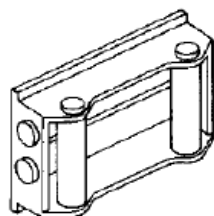

Figure 17
6. **EQUIPPING THE WINCH WITH A ROLLER FAIRLEAD** will substantially reduce wear on the wire rope during angle pulls (Figure 17). The rollers eliminate heavy rubbing and abrasion to the wire rope.